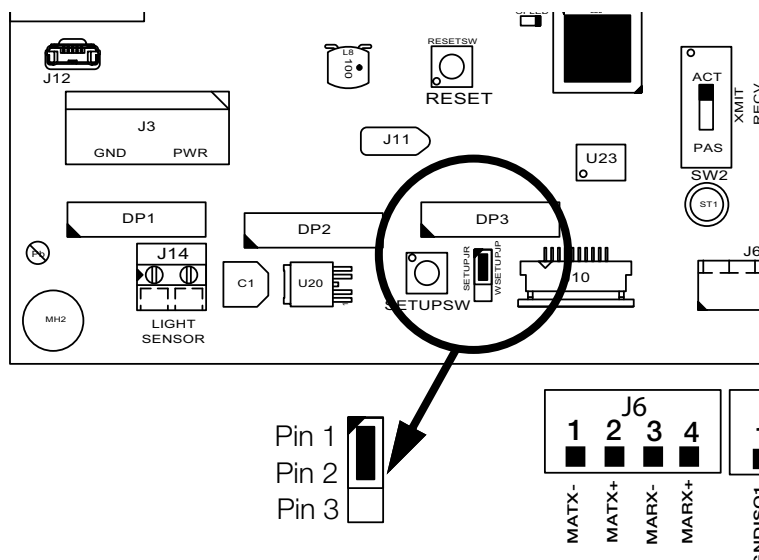

Figure 3-1. LaserLight2 Setup Switch Location on the CPU Board
The LaserLight2 remote display can be configured using a series of menus accessed using the keys in Figure 3-1.
2. Move the setup jumper (circled in Figure 3-1) to pin positions 2 and 3.